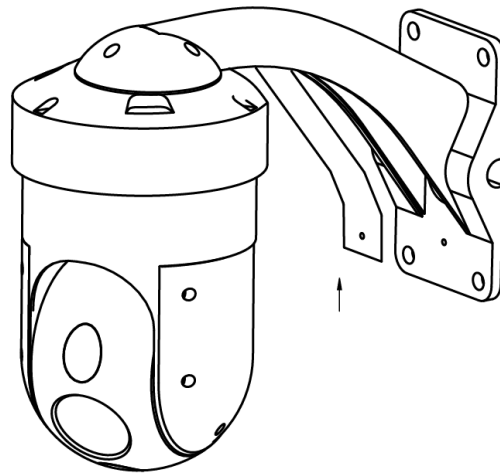

Figure 10
8. Please install the bracket cover board as Figure 10 shows.